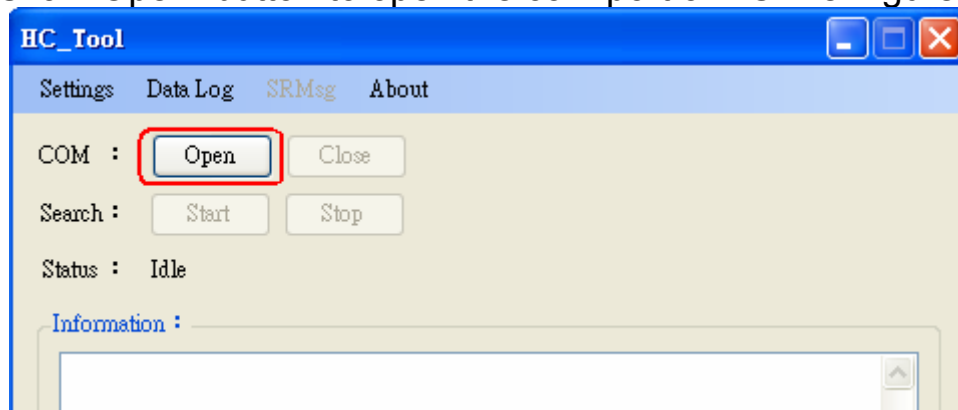

Figure 3-3: Click the “Open” button
**Step4:** Click “Open” button to open the com port of PC like Figure 3-3.